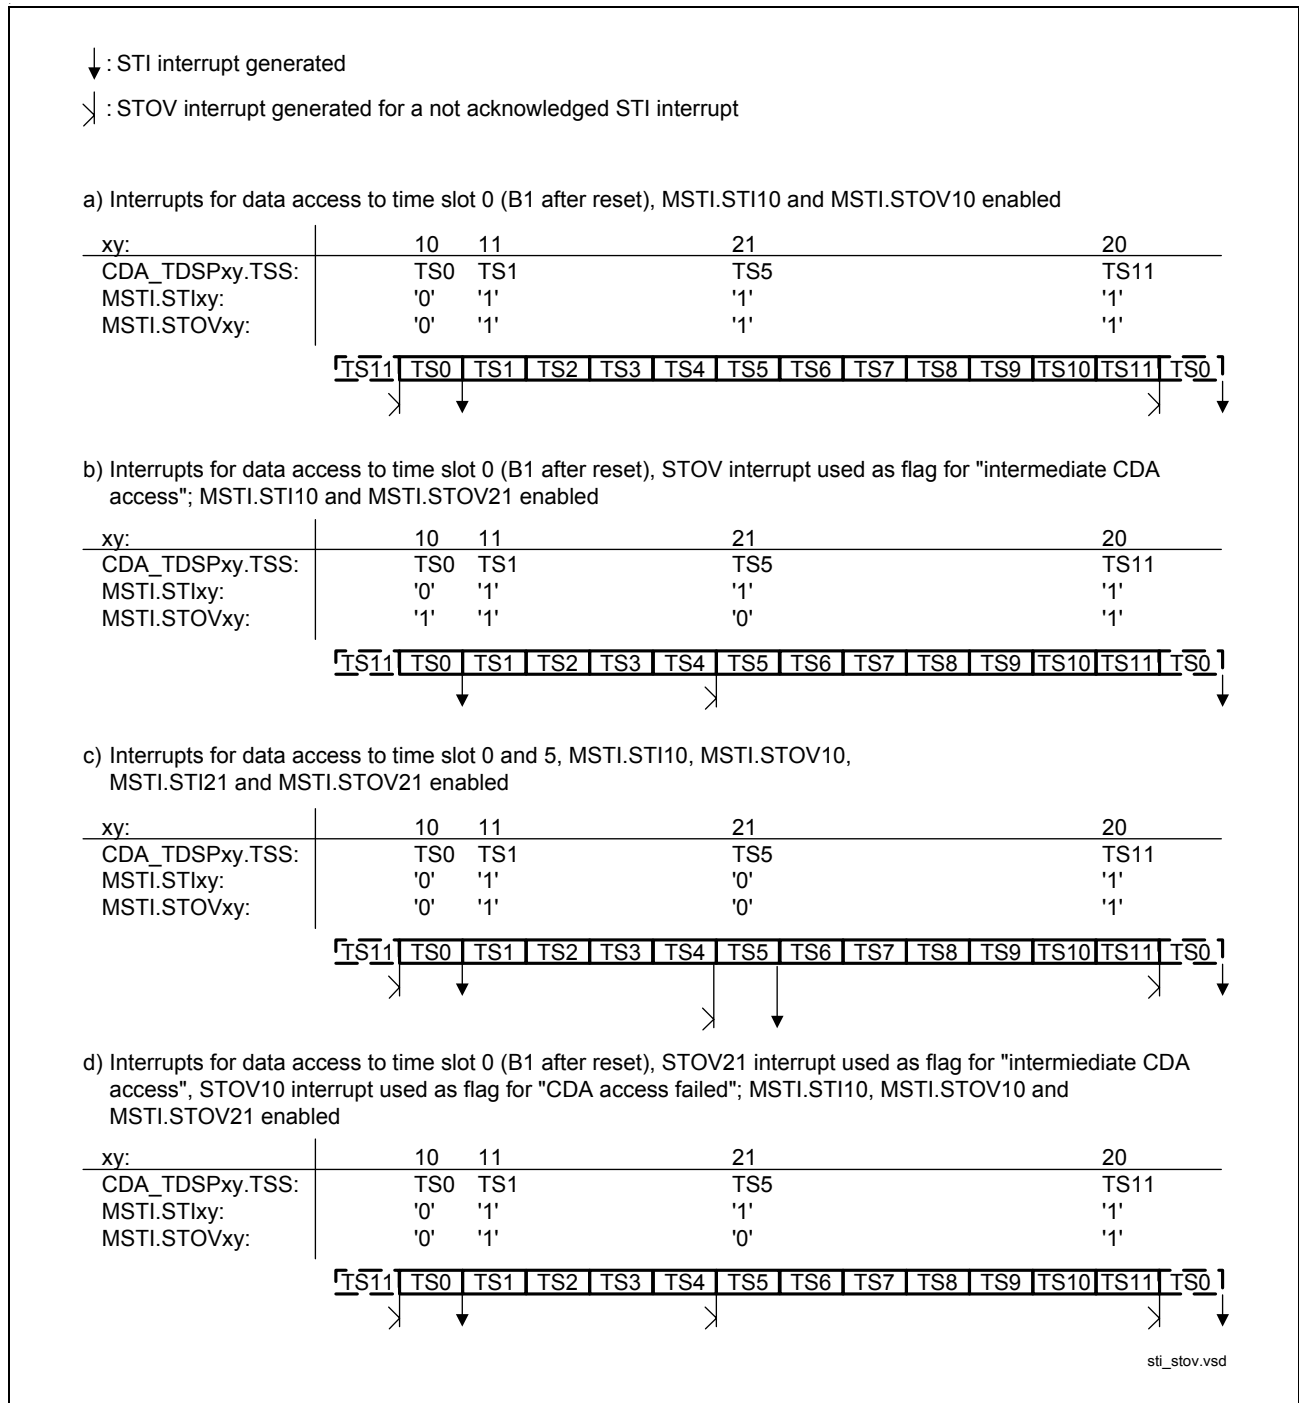

**Figure 55** Examples for the Synchronous Transfer Interrupt Control with one enabled STIxy
**Figure 55** shows some examples based on the timeslot structure. Figure a) shows at which point in time an STI and STOV interrupt is generated for a specific timeslot. Figure b) is identical to example 3 above, figure c) corresponds to example 5 and figure d) shows example 4.